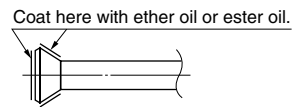

Fig. 3
- When connecting the flare nut, coat the flare both inside and outside with refrigerating machine oil and initially tighten by your hand 3 or 4 turns. **(Refer to Fig. 3)**